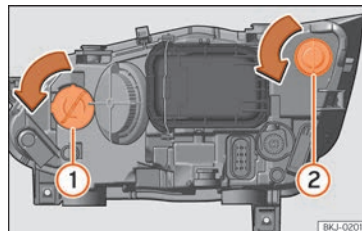

Fig. 106 In the engine compartment: turn signal light bulb ① and DRL (daytime running light) bulb ②.
- Turn the bulb holder » **Fig. 106** ① or ② to the left and pull.